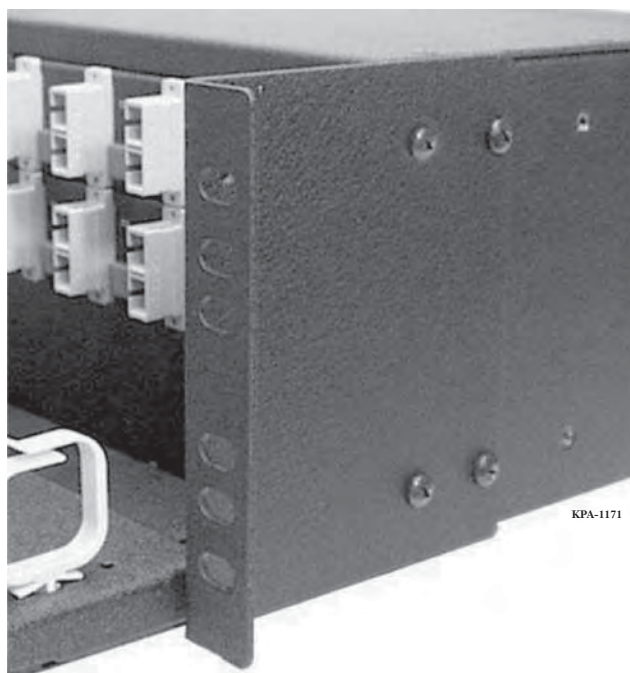

Figure 5
- c) Reattach the brackets to the housing (Figure 5).